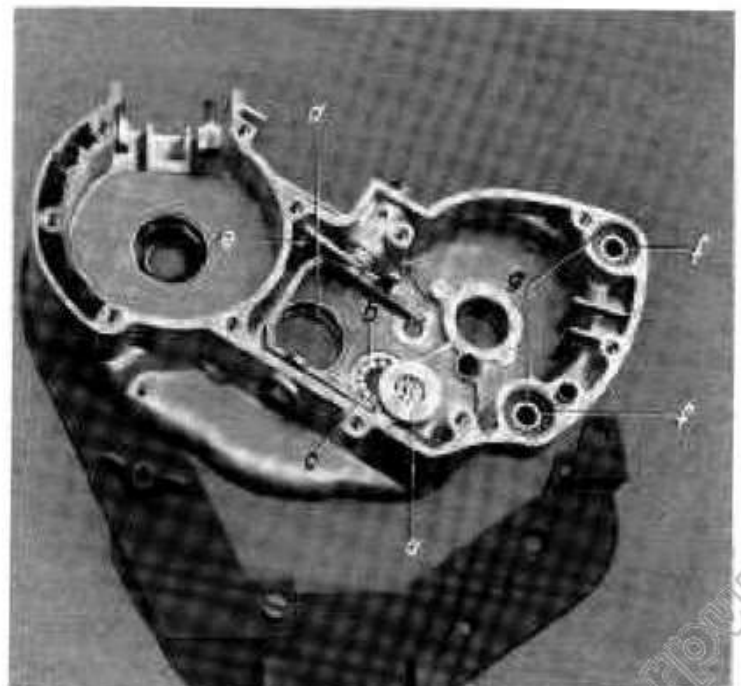

Fig. 36
#### 4. 23 Bearing-main shaft Insert washer 244 390 (a), and press in the outer race (b) 232 120. Insert 13 rollers (c), 4x6 mm, in hot bearing grease, and cover with washer 244 390 (a). (Fig. 36)
#### 4. 24 Bearing-countershaft Insert groove bearing outer race (d) - E 15 - to the ball bearing bushing 286 791. (Fig. 36)
- 4.28 Insert two wedge plates (g) for the rubber bearings (f). (Fig. 36)